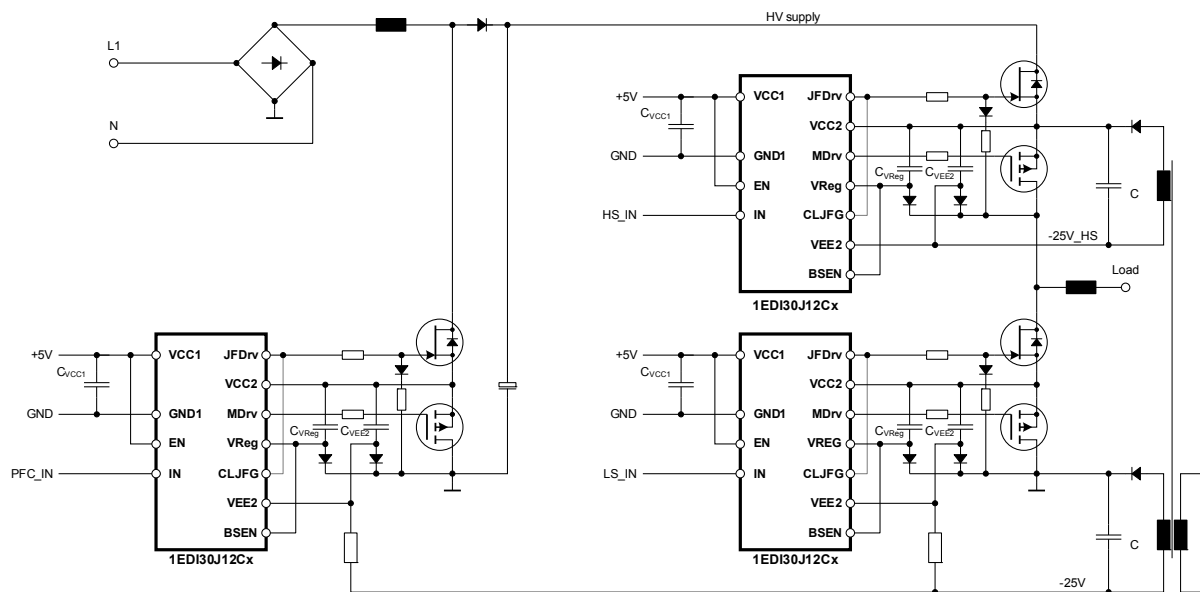

Figure 4 Application drawing for isolated supply (PFC+HB)
1. The external power supply is related to VCC2 (see Figure 4 high-side switch and Figure 12).
2. The external power supply is related to the MOSFET drain potential (see Figure 4 low-side switches and Figure 14).